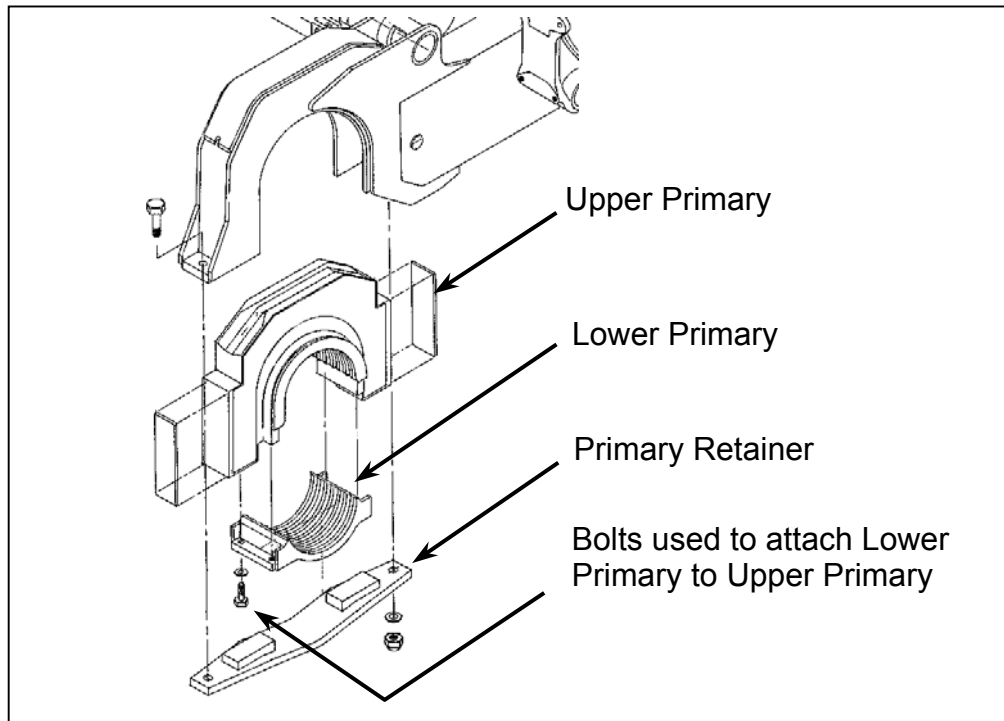

Figure 2 – Exploded View of Primary Suspension Assembly.
- 6.1** Remove primary retainer from axle assembly. (Refer to figure 2)